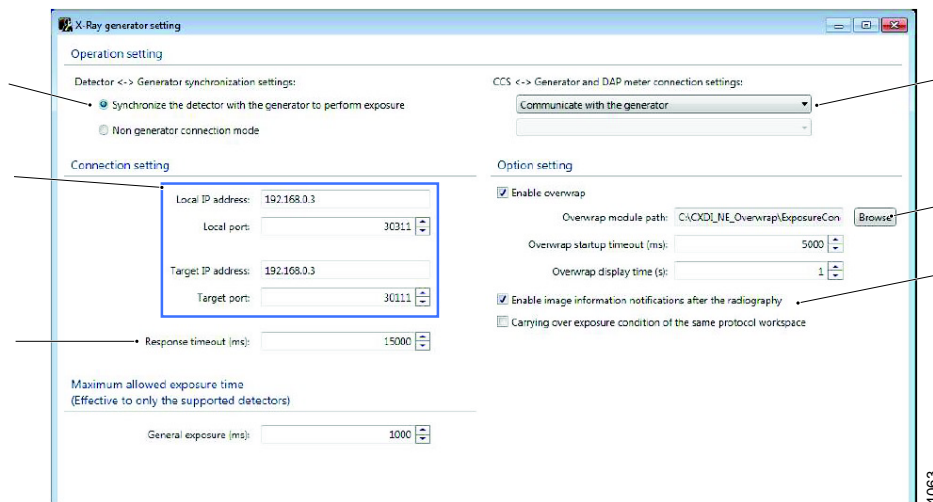

Fig. 5-6 X-Ray Generator setting
- **Set** Local IP addresses and ports according to **Fig. 5-6**.